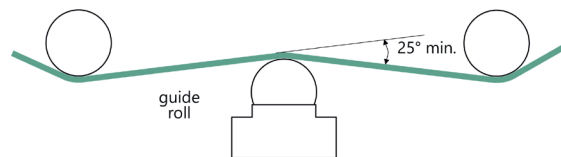
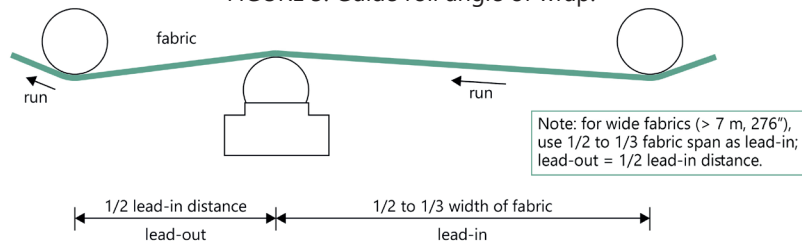

FIGURE 3. Guide roll angle of wrap.
FIGURE 4. Fabric Lead-in and lead-out ratio.
**Solution:** For longer fabrics, such as those used on Fourdrinier machines, a wrap angle of at least 25° (Figure 3) is needed to adequately guide a fabric. For shorter fabrics, such as those used on top formers or gap formers, the wrap angle can be a little less to avoid a hyper-sensitive control system [1]. Figure 4 shows the recommended lead-in and lead-out setup.